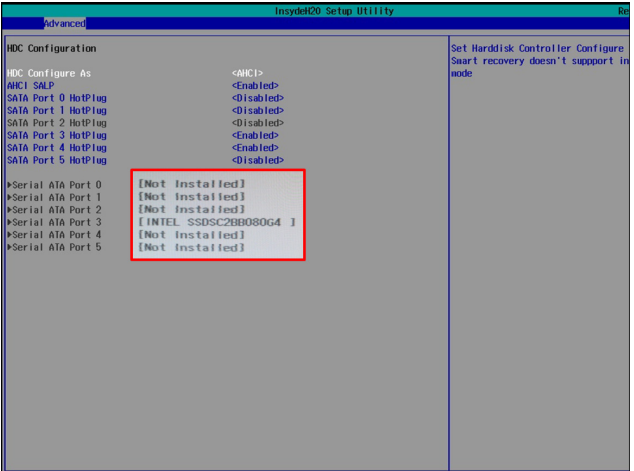

Figure 35
5.3 Verify the information [brand and model] displayed for **Serial ATA Port 3** as shown in Figure 35.